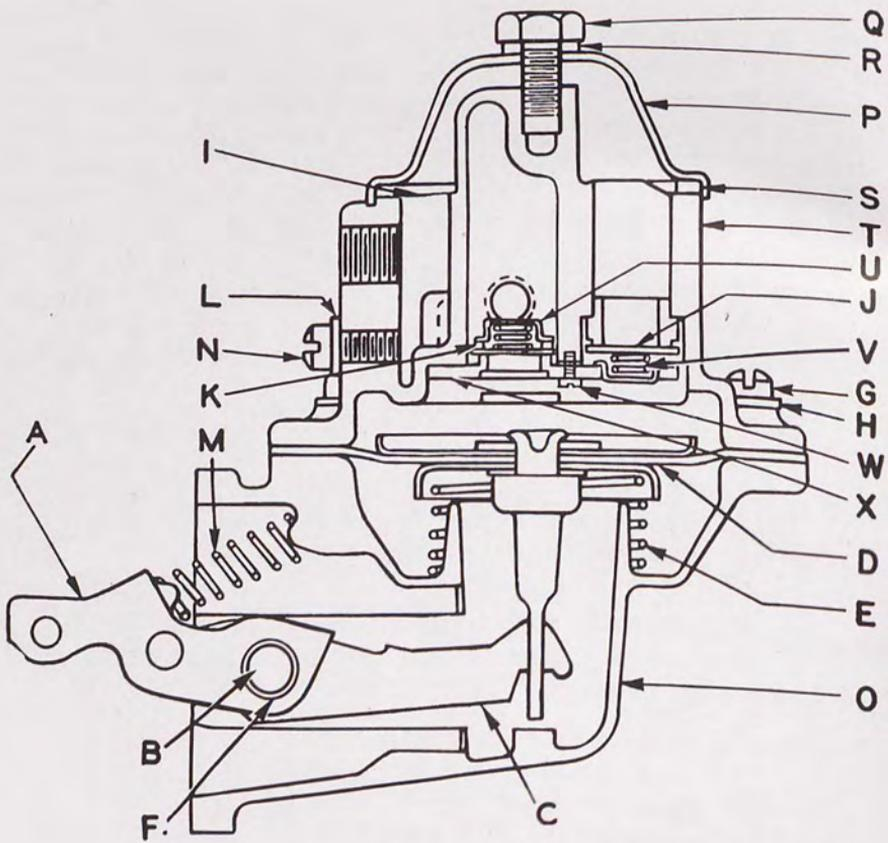

FIG. 7—FUEL PUMP—CROSS SECTION
- b. Repairs which necessitate removal and disassembly of fuel pump. (Refer to Figures 7 and 14.)
(Refer to Figure 7)